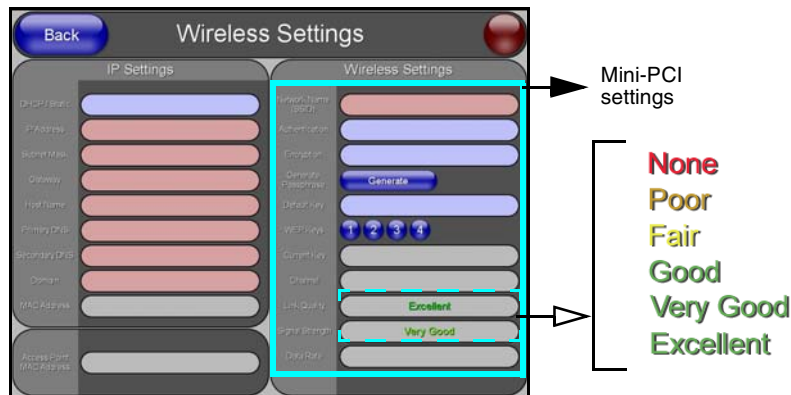

FIG. 80 Wireless Settings page (showing default values)
6. From within the Wireless Settings section of the Wireless Settings page, touch the *Network Name (SSID)* field (FIG. 80).
- The bargraphs have been replaced with descriptions: **None, Poor, Fair, Good, Very Good,** and **Excellent** (FIG. 80).